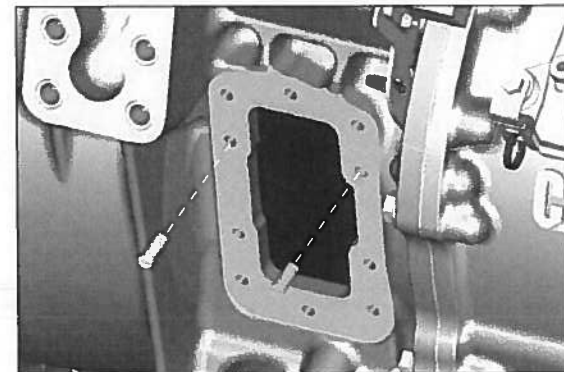

Fig. 25
3. Using a screwdriver, install the guide pins until they bottom out (**Fig. 25**) (see Page 35).